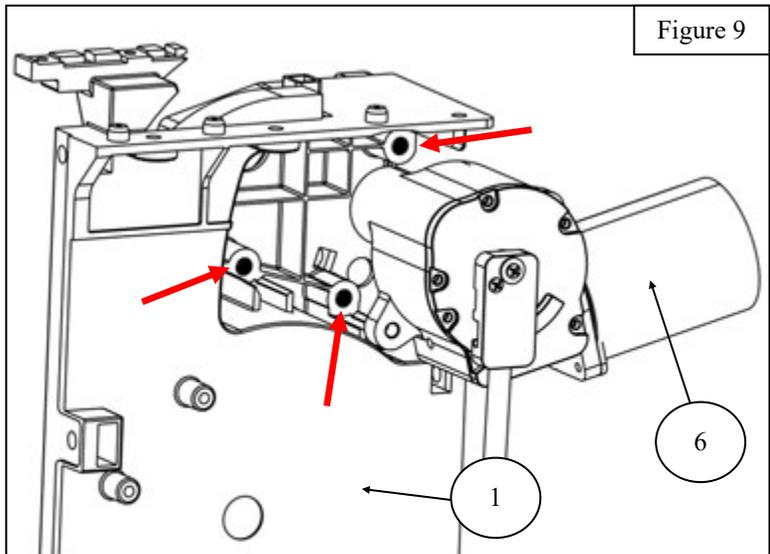

Figure 9
4. Install the motor (**Item 6**) onto the Tonneau Cover Canister Assembly (**Item 1**), place the canister upright on level ground and locate the mounting location for the motor on the driver side. Use **Figure 9** as reference.